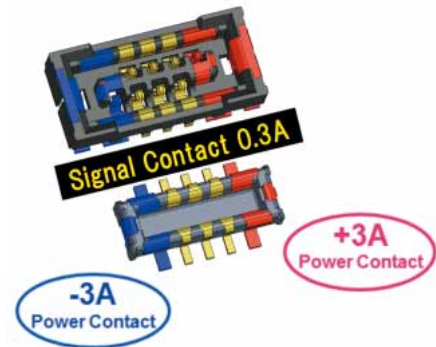

Fig.2
2. **Equipped with power contacts capable of handling up to 3A current.** (Fig.2)